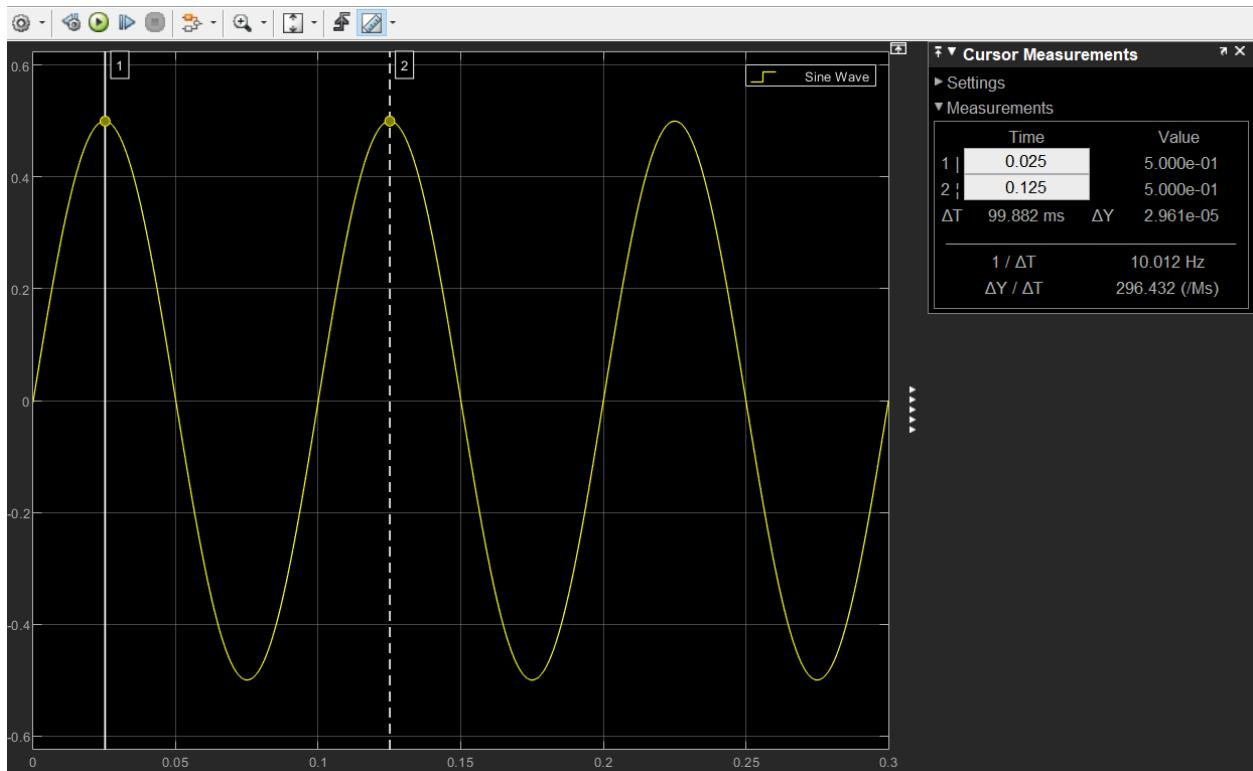
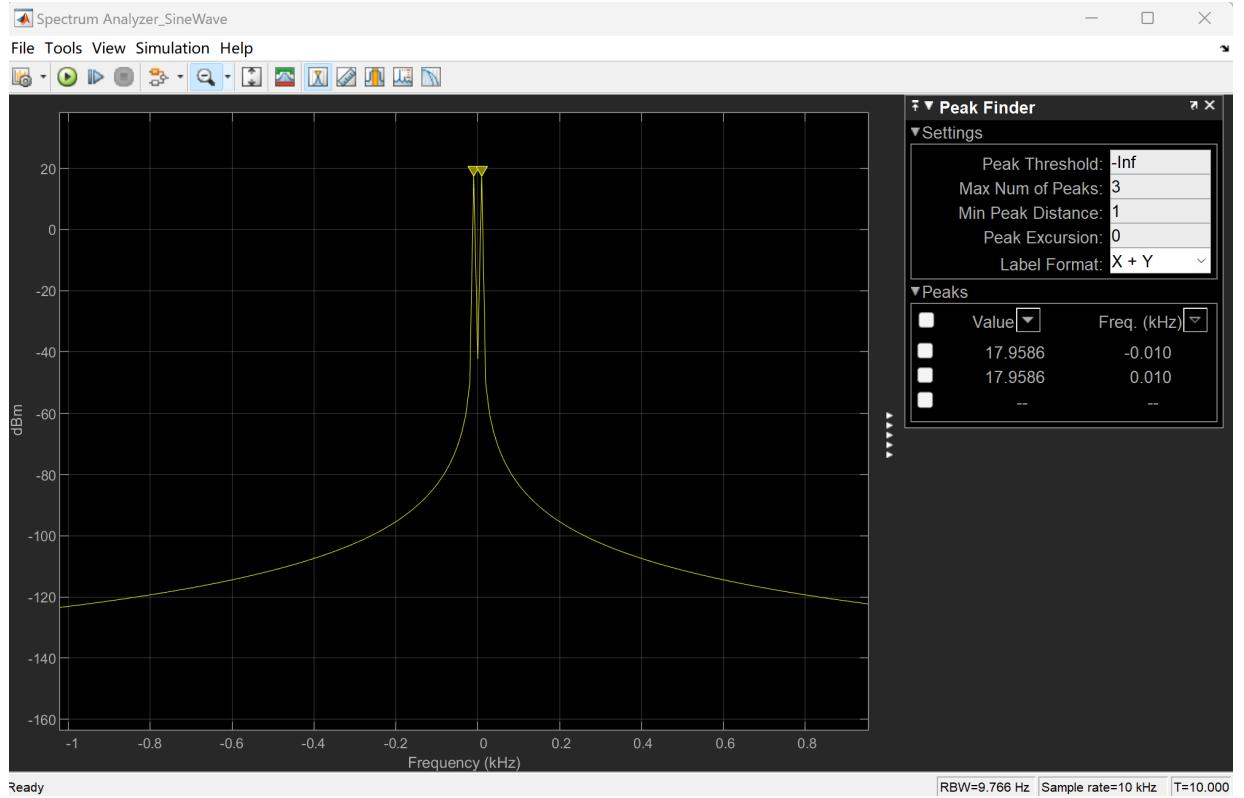

Fig. 1: Output of the sine-wave on the Scope
Fig. 2: Output of the sine-wave on the Spectrum
- 1) In this experiment, the first task is using a sample based sine wave with setting amplitude to 0.5, samples per period to 1000, and sample time to 1e-4. This sine wave is then connected to a scope and a spectrum, and the outputs on them are shown below (Fig. 1 and Fig. 2).